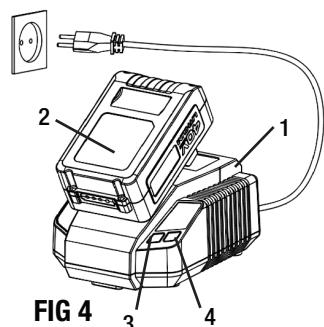

FIG 4
## CHARGING THE BATTERY (FIG 4)
- Plug the charger (1) into a 120 Volt AC power source. The green light (3) will illuminate for 5 seconds, then the light will go off if no battery pack in the charger. .
- Slide the battery (2) all the way into the charger until it locks in place with a click, as shown in FIG 4. The flashing green light indicates that the battery is charging. A solid green indicates the battery is fully charged.
- The flashing red light (4) indicates the battery temperature is too high to be charged. Wait the battery cool down to start the charging.